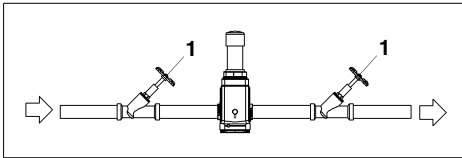

Fig. 7: Cartridge exchange I
1. Close the shut-off valves (1) upstream and downstream of the device (see fig. 7).